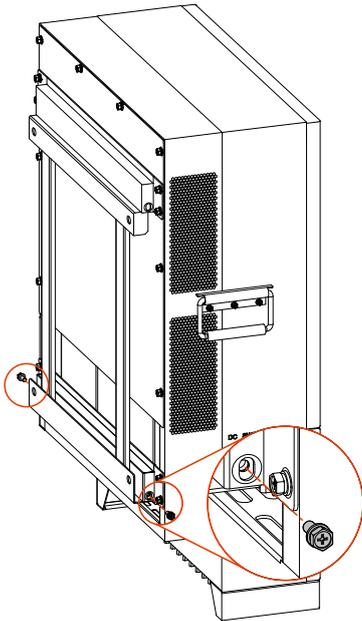

Figure3-8 Fasten the inverter
- Step 6 As shown in Figure3-8, fasten the inverter to the installation holder in the two sides of the inverter by equipped bolts M6\*16.